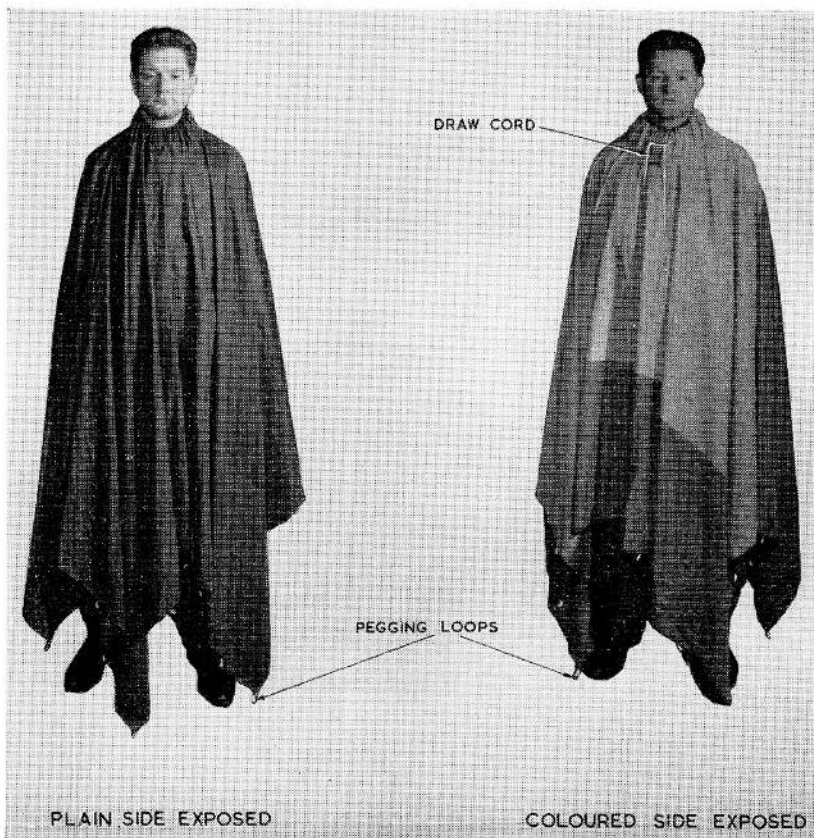
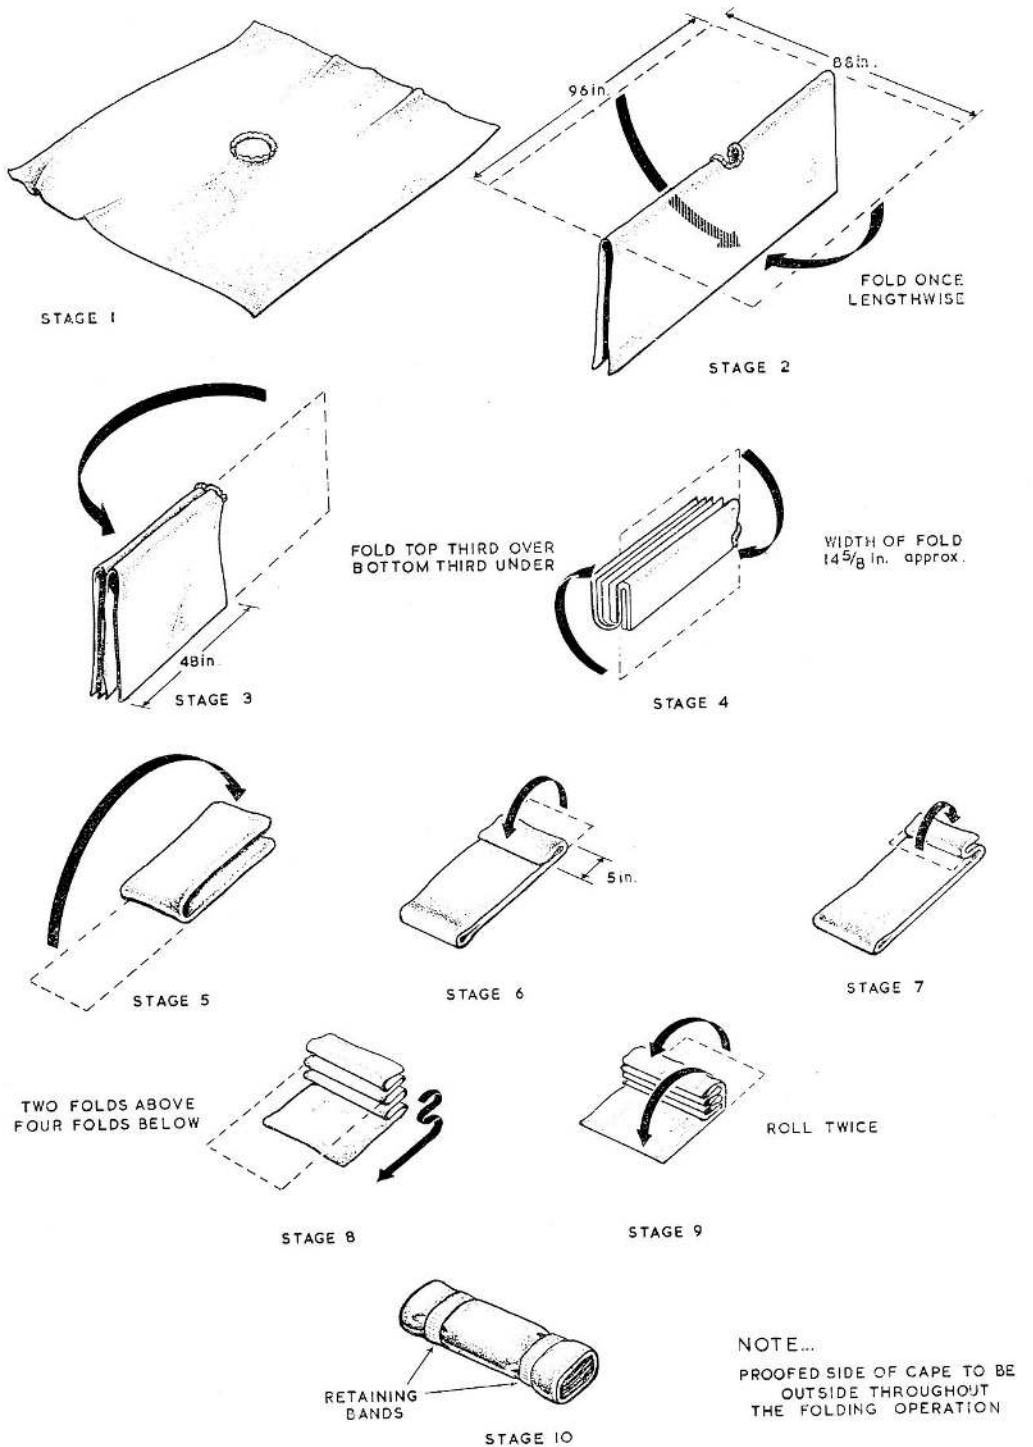

Fig. 1. Poncho cape
Fig. 2 Folding details
1. Made from single ply rubber-proofed silk, the poncho cape (*fig. 1*) is primarily designed to serve as a cape, tent, ground sheet and ground marker. It can be worn with either side outermost. When not in use, the cape can be retained in a folded condition (*fig. 2*) by two bands of 1½ in. wide tape.
8. Fig. 2 illustrates the complete sequence of operations for folding the cape. Throughout the folding operations, the proofed side of the cape must be on the outside.